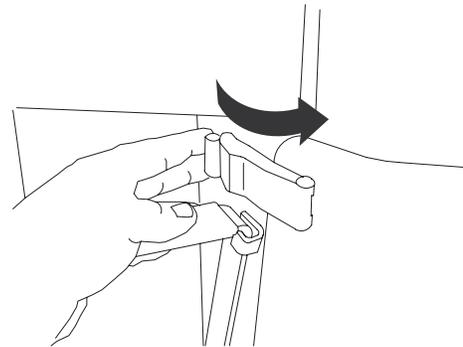

Figure 31
1. Pull out and forward on the latches on both sides of the traction unit (Fig. 31).
2. Swing the rear access cover down and pull it away from the traction unit (Fig. 31).
2. Place the latches over the locking brackets on each side and secure them (Fig. 31).